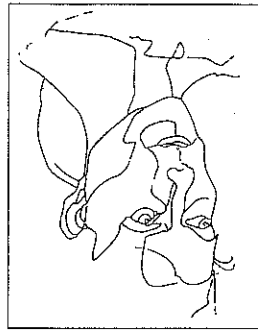

Figure 5-13: Face upside down.
Step 2. Now turn the picture you were copying upside down (see Figure 5-13). Once again use a piece of paper the same size as the drawing, but now copy the upside-down drawing (see Figure 5-14). Your drawing will be upside-down too. Allow yourself about 15 minutes for this drawing. (You may want to set a timer or ask someone to let you know when the time is up, because the right brain is not very interested in time and is not likely to be keeping track.)